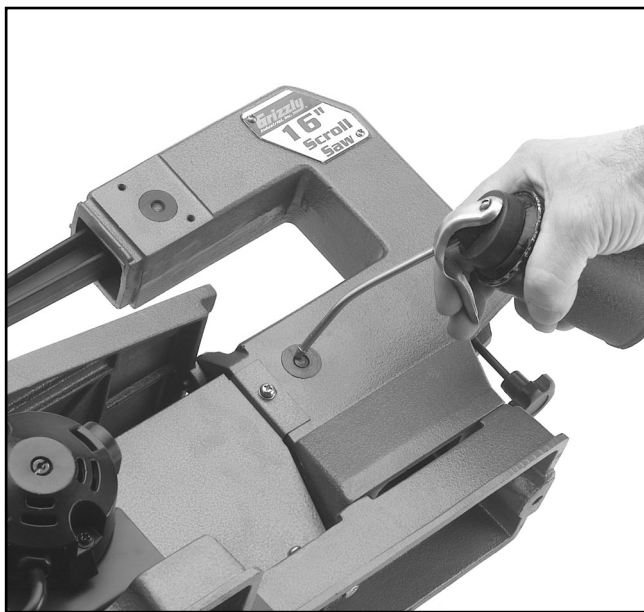

Figure 15. Lubricating bushings.
4. Apply a generous amount of machine oil to the end of the bolts that hold the bushings in place as shown in **Figure 15**.